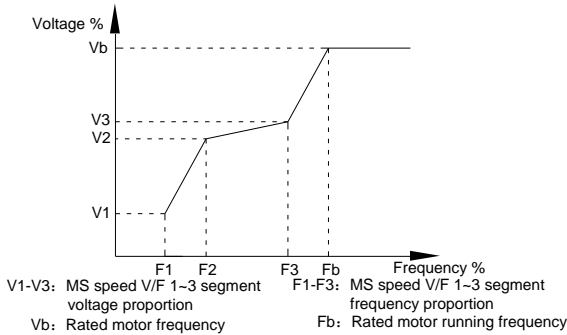

Fig. 5-4 Multi-point V/F curve setup schematic diagram
1) It must be set as follows:  $V_1 < V_2 < V_3$ ,  $F_1 < F_2 < F_3$ . Fig.5.4 is schematic diagram for multi-point V/F curve.